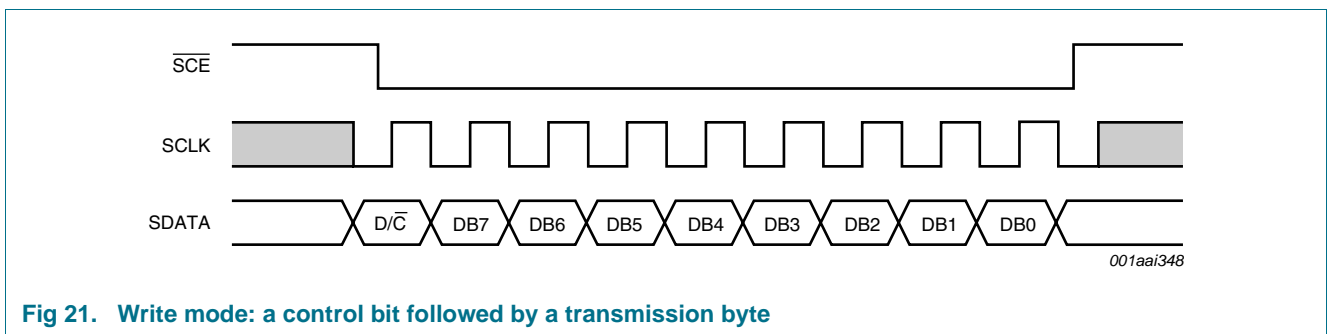
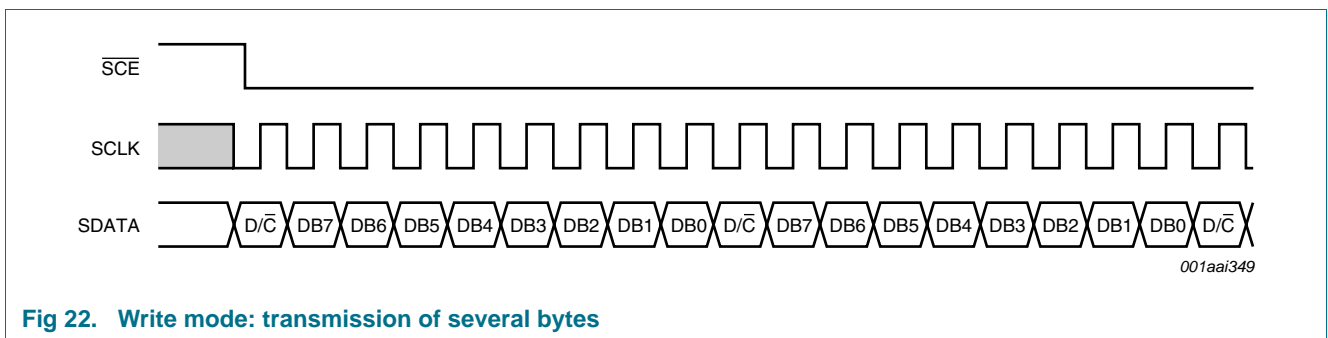
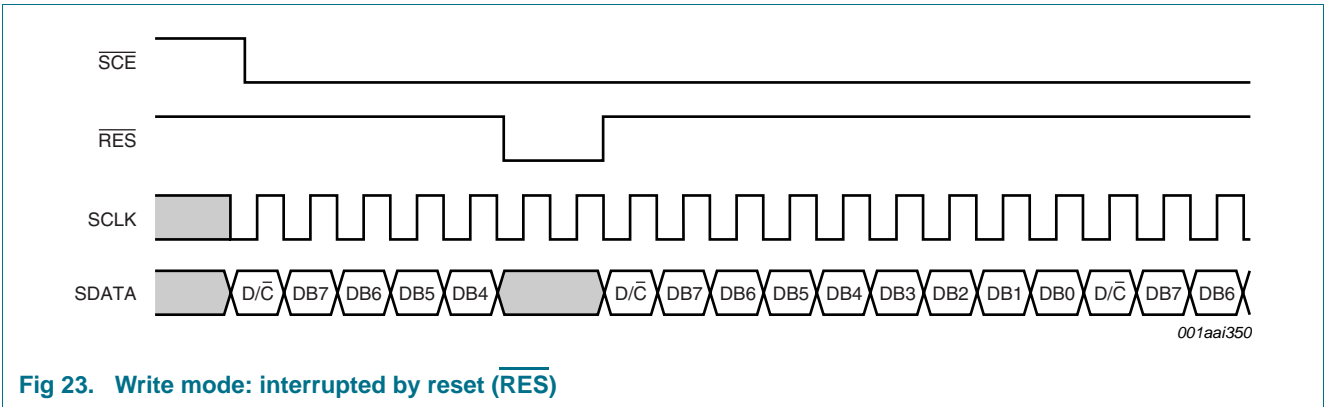

Fig 21. Write mode: a control bit followed by a transmission byte
Fig 22. Write mode: transmission of several bytes
Fig 23. Write mode: interrupted by reset ( $\overline{RES}$ )
Figure 21, Figure 22 and Figure 23 show the protocol of the write mode:
- If  $\overline{\text{SCE}}$  stays LOW after the last bit of a data/command byte, the serial interface receives the  $\overline{\text{D/C}}$  bit of the next byte on the next rising edge of SCLK; see Figure 22
- A reset pulse  $\overline{\text{RES}}$  interrupts the transmission. The data being written into the RAM may be corrupted. The registers are cleared. If  $\overline{\text{SCE}}$  is LOW after the rising edge of  $\overline{\text{RES}}$ , the serial interface is ready to receive the  $\overline{\text{D/C}}$  bit of a data/command byte; see Figure 23.